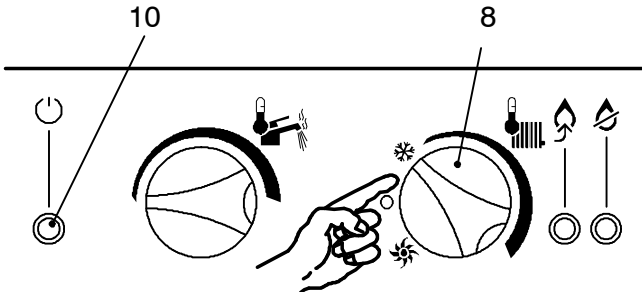
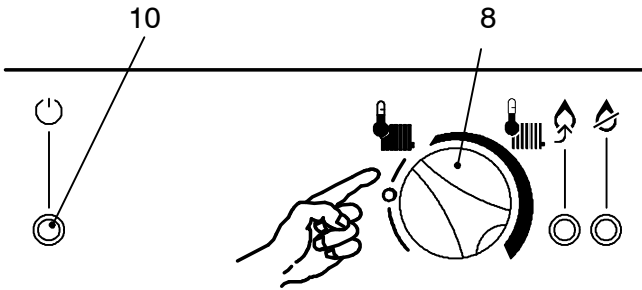

fig. 2.4
fig. 2.5
- 2 Turn on the electricity supply to the boiler, switching on the fused spur isolation switch. The appliance operation light 10 (fig. 2.4) will flash every 4 seconds (stand-by condition).
- 3 If the boiler is to be used for c.h. and d.h.w. position the function selector 8 as in fig. 2.4. (combi) or in fig. 2.5 (c.h. only). The appliance operation light 10 will flash every 2 seconds (operating boiler).